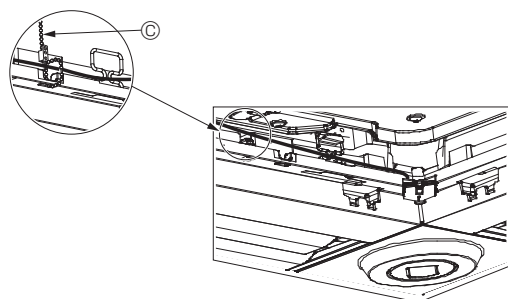

Fig. 10-12
- Secure the i-See sensor and signal receiver wires to the panel with the fastener as shown in the diagram so that there is no slack in the wires, and then cut off the excess end of the fastener. (Fig. 10-12)
- If the position of the i-See sensor was changed from the "○" position (E) to the "□" position (F), change the function settings. (Refer to page 12.)